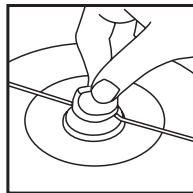
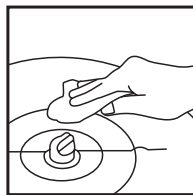

Fig. 8
Fig. 9
1. Be sure to allow the Popcorn Maker to cool before cleaning. Remove the Stirring Rod from the Base by unscrewing the Rotary Knob (Fig. 8). Use a damp, frictionless sponge or damp cloth to clean the Base and the Stirring Rod before reattaching (Fig. 9)